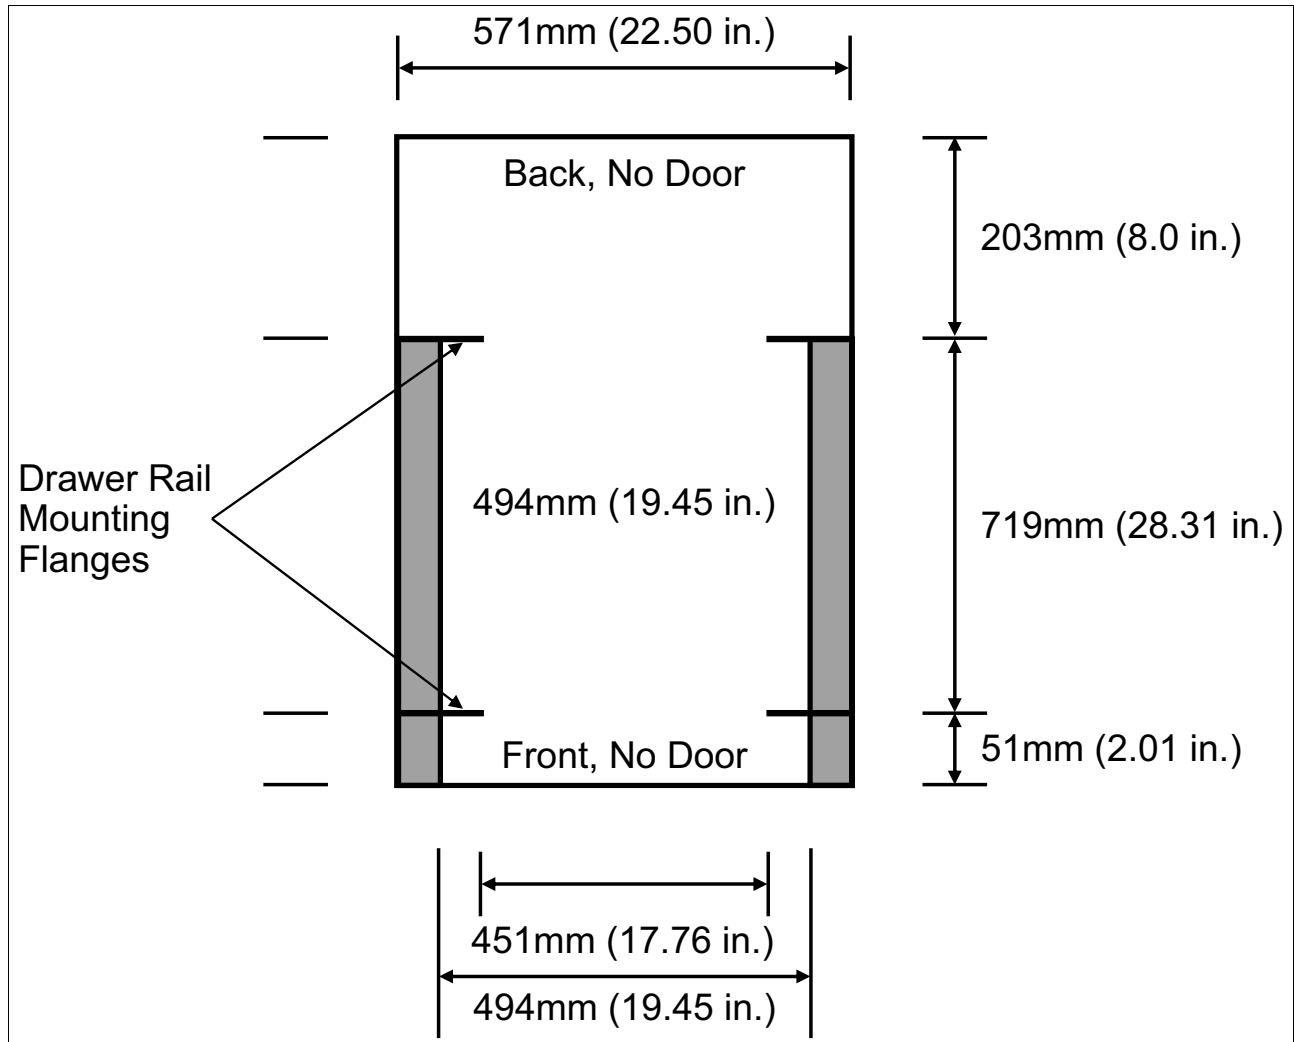

Figure A-4 Top view of rack specification dimensions (not specific to IBM)
- The front rack opening must be 451 mm wide ± 0.75 mm (17.75 in. ± 0.03 in.), and the rail-mounting holes must be 465 mm ± 0.8 mm (18.3 in. ± 0.03 in.) apart on-center (horizontal width between the vertical columns of holes on the two front-mounting flanges and on the two rear-mounting flanges). Figure A-4 is a top view that shows the specification dimensions.